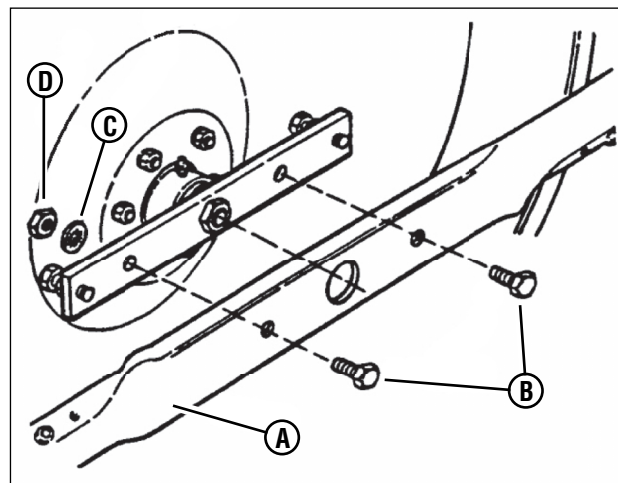

Figure 43: Removing the mower blade
4. Remove the bolts (**B**, **Figure 43**), washers (**C**) and nuts (**D**) securing the mower blade (**A**) to the spindle.